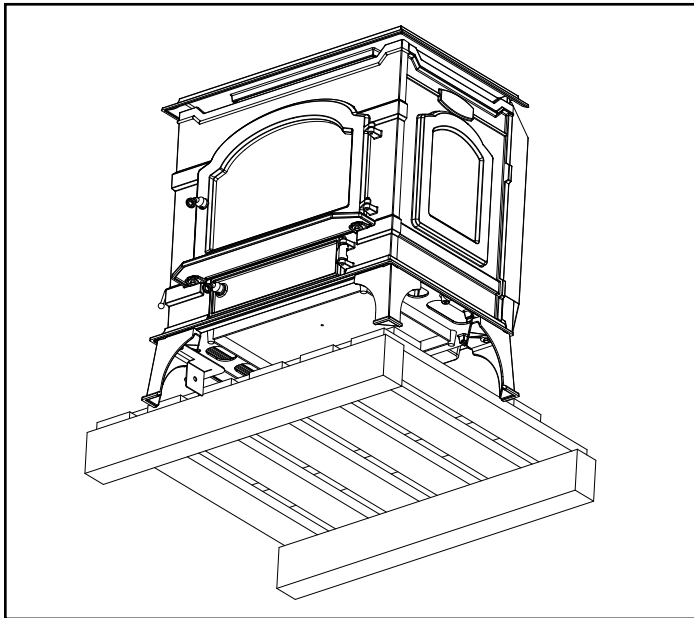

Figure 26 - Reposition stove so one rear leg can be attached.
7. Reposition the stove so the first rear leg can be attached. Attach the leg using the procedure described in Step 6. (Figure 26)
9. Remove the (4) 1/4-20 x 3/8" hex head bolts from the mounting bosses and attach the bottom heat shield using the same bolts.